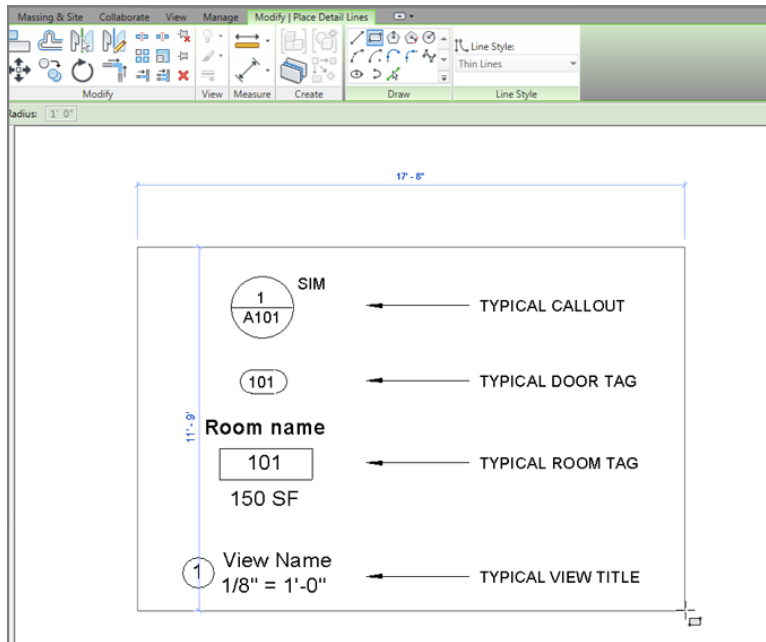

FIGURE 11.51: Adding the linework around the symbols and text
2. In the Properties dialog box, be sure Thin Lines is selected, as shown in Figure 11.51.
3. On the Draw panel, click Rectangle (see Figure 11.51).
4. Draw a rectangle around the symbols and the text (see Figure 11.51).